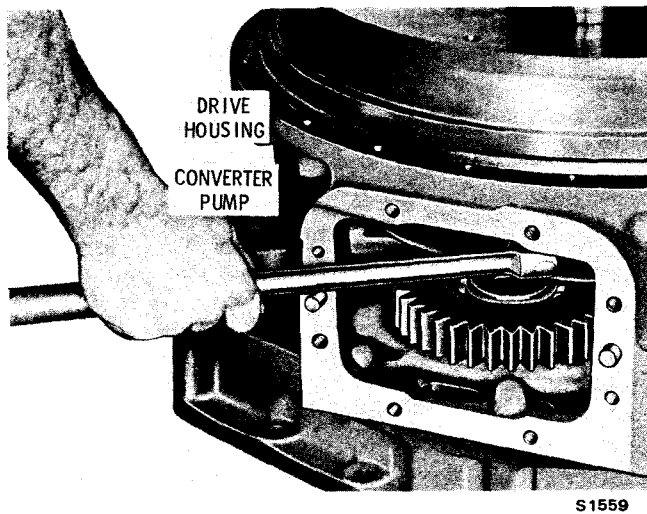

Fig. 5-14. Removing converter drive housing bolts (remote mount)
(5) From the power takeoff opening in the top of the converter housing, remove the 36 self-locking bolts and washers that secure the converter drive housing (fig. 5-14).